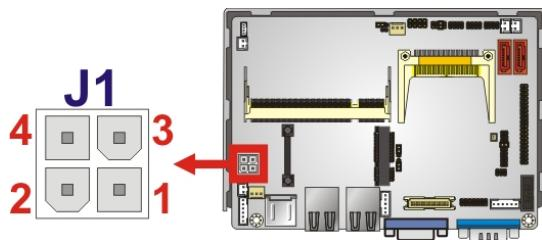

Figure 3-2: ATX Power Connector Location
**CN Location:** See **Figure 3-2**